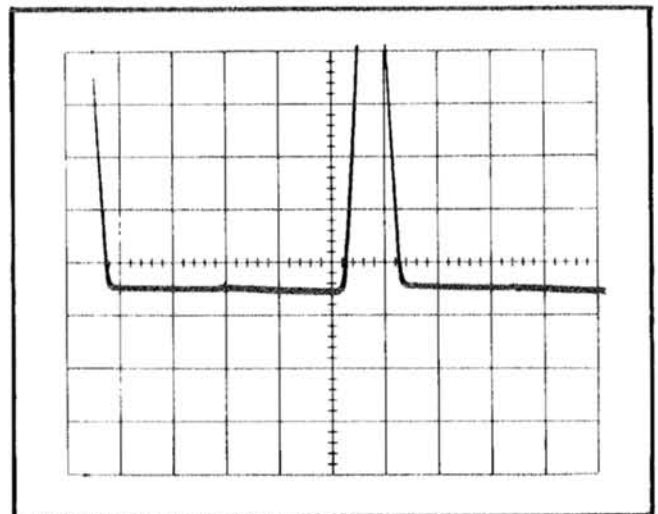

Fig. 2-5. Test oscilloscope waveforms when horizontal limit centering is properly adjusted.
g. CHECK—The baseline of both displayed waveforms should be at the same DC level within 0.2 division (see Fig. 2-5).
f. ADJUST—Horizontal Gain adjustment R512 (see Fig. 2-5) for exactly eight divisions of deflection between the second and eighth traces.